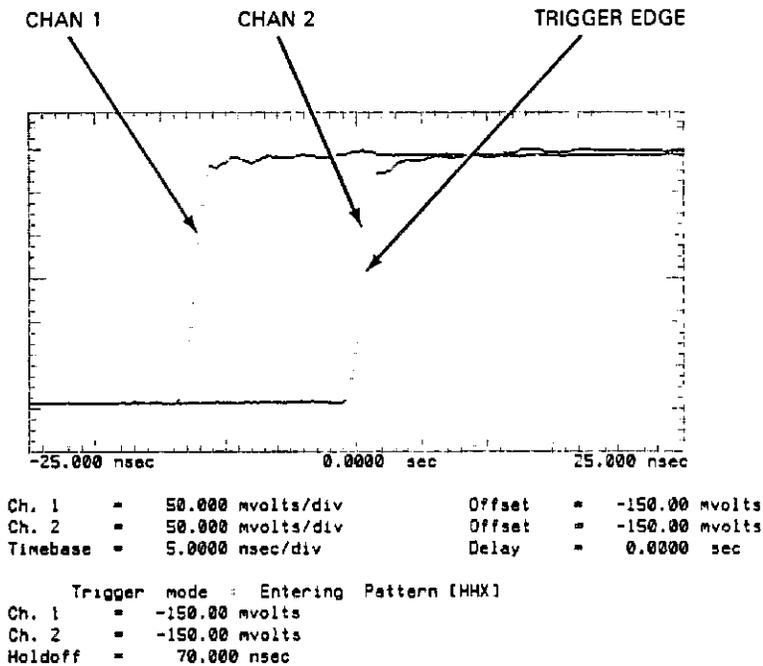
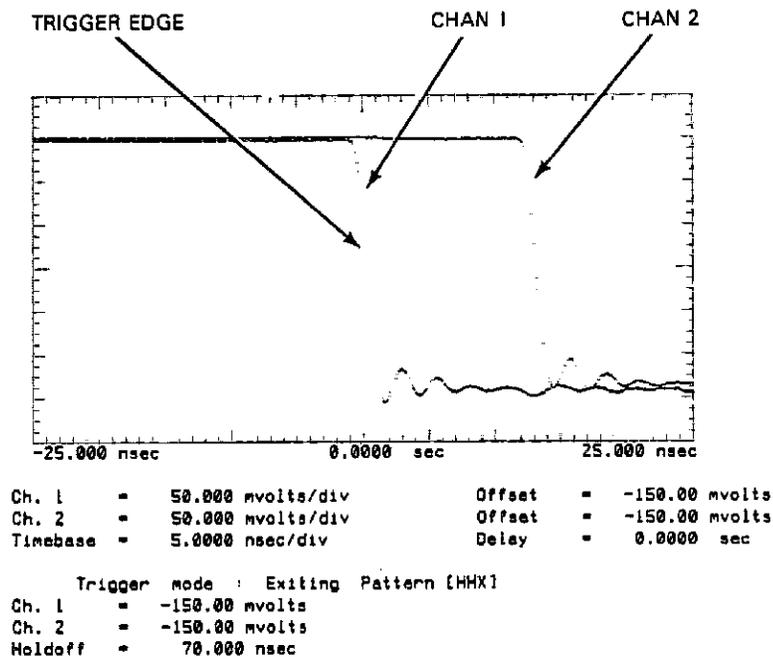

Figure 7-16. Pattern When Entered "HHX"
Figure 7-17. Pattern When Exited
*In figures 7-16 and 7-17, the signal path for Chan 2 is approximately 2 metres longer than the signal path for Chan 1. This provides the time differential between the two signals.*
This menu allows triggering when entering or exiting a defined logic pattern. If the When Entered function is selected, the unit will trigger on the last pulse edge that makes the pattern true (see figure 7-16). If the When Exited function is selected, the unit will trigger on the first pulse edge that makes the pattern false (see figure 7-17).